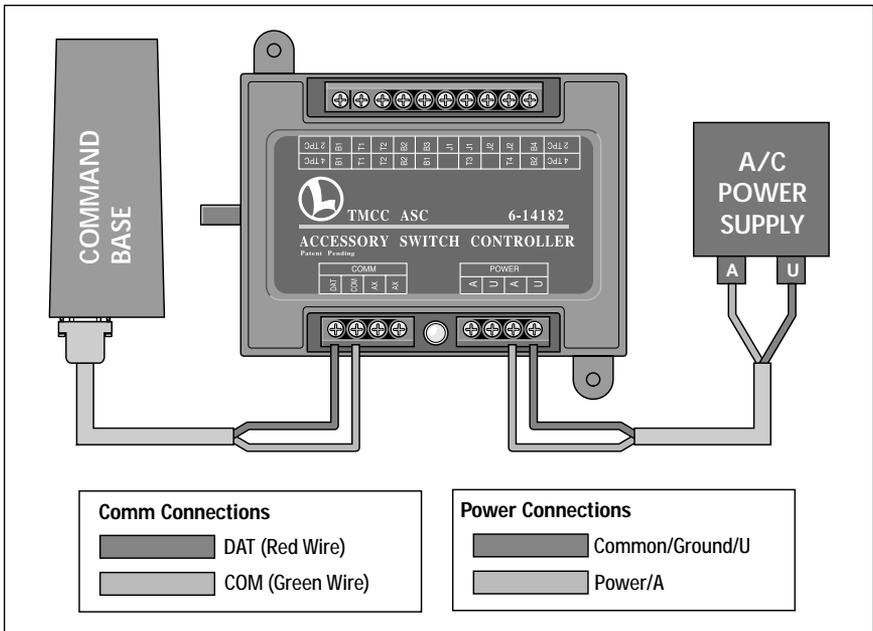

Figure 1. Power and COMM connections
Use a separate accessory power supply to power your ASC and be sure to set the transformer to 12-18 volts (AC). Figure 1 illustrates the location of the POWER terminals. Follow these steps and refer to Figure 1 as you connect your power supply to your ASC unit.
To receive your commands, the ASC will need to communicate with the Command Base. Messages from the Command Base are sent through the Command Base Cable (available separately, 6-14191 for a 6' cable or 6-14195 for a 20' cable). Follow these steps and refer to Figure 1 on page 3 to connect your ASC unit to the Command Base with the cable.